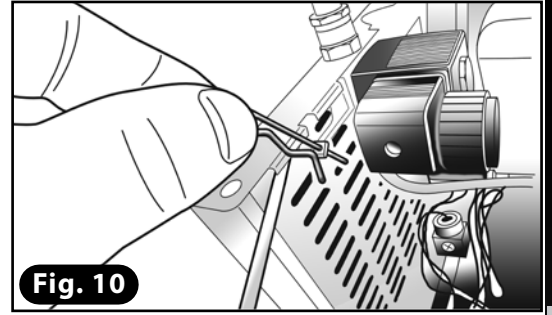

Fig. 10
- 9) Use cut-off scissors to remove the excess part of the element (**Fig. 10**).
- 16) Remove the safety clip on the supporting rod of the body, keeping the body raised with your free hand (Fig. 10).